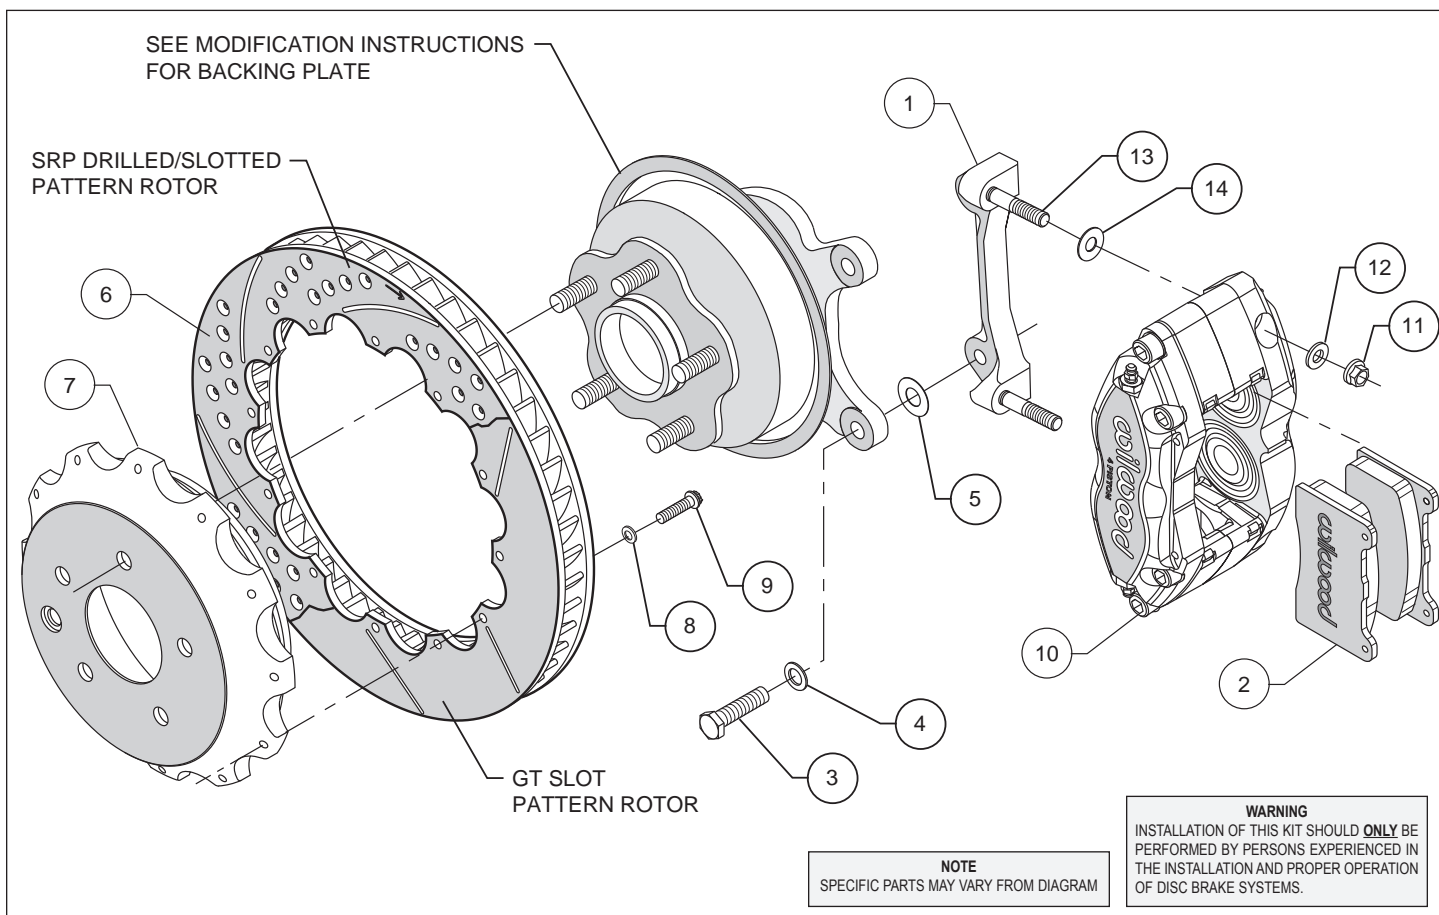
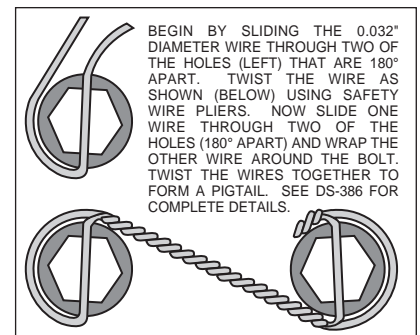

Figure 1. Typical Installation Configuration
Figure 3. Safety Wire Diagram
- The caliper mount bracket assembly (1) should be installed first with clean, dry threads on the mounting bolts. Install the bracket from the rear side of the hub by sliding bolt (3) through washer (4), and through the OEM caliper mounting bracket ears, then through shim washer (5) and into the bracket (1). The bracket must tighten squarely against the inboard side of the caliper mount bosses on the upright. Inspect for interference from casting irregularities, machining ridges, burrs, etc. Use one thin shim (5) between the bracket and upright during initial trial fitting. Later, after the caliper, pad, and rotor alignment has been checked, and any necessary shims have been put in place, the mounting bolts should be coated with red *Loctite*® 271 and torqued to 65 ft-lbs.
- Assemble the rotor (6) to the hat (7) with the bolts (9) and washers (8) as indicated in the configuration pictured in Figure 1. Be sure all bolts thread in smoothly and are snug. Then, torque all bolts in an alternating sequence to 85 **in-lbs**. The rotor mounting bolts (9) must be lockwired using standard 0.032 inch diameter stainless steel safety wire as shown in Figure 3. Please refer to Wilwood's data sheet DS-386 (available at [www.wilwood.com/Pdf/DataSheets/ds386.pdf](http://www.wilwood.com/Pdf/DataSheets/ds386.pdf)) for complete safety wire installation instructions.
- Install one shim (14) over each stud (13) on the radial mount bracket (1). Slide the caliper (10) in place over the studs and rotor and install the washer (12) and lock nut (11) to hold the caliper in place. Snug the lock nuts (11) and check that the rotor (6) is centered in the caliper (10). Add or subtract .015" shims (5) as necessary between the caliper mount bracket (1) and the caliper mount bosses on the upright assembly to center the caliper.
- Remove the quick-clip pad retainer from the caliper. Slide the brake pads (2) into place. They should install easily without interference. Check that the outside radius of the brake pad is aligned with the outside diameter radius of the rotor face. Add or subtract shims (14) between the caliper and mount bracket to gain the proper alignment. Reinstall the quick-clip pad retainer.
- Once all clearances have been checked, remove the wheel, caliper, hat, and rotor from the axle flange. Secure the caliper mounting bracket (1) to the OEM caliper mounting ears using red *Loctite*® 271. Torque the bolts to 65 ft-lbs. Reinstall the hat and rotor assembly and again use several lug nuts to hold it in place. Lubricate caliper mounting studs and nuts with lightweight oil, reinstall the caliper, torque the caliper nuts (11) to 30-35 ft-lbs